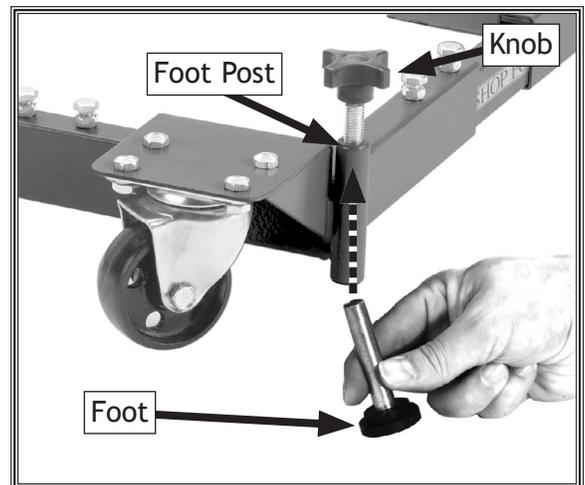

Figure 12. Installing foot pad and knob into a foot post.
9. Thread a knob into the top of a foot post several turns, then insert a foot into the bottom of the foot post, as shown in **Figure 12**. The knob shaft should pick up the foot when it comes in close proximity since the top of the foot is magnetized.
1. Thread each knob several turns into the foot posts, as shown in **Figure 12** in *Assembling Base* on **Page 5**.
2. Insert a foot into the bottom of each foot post (see **Figure 12** on **Page 5**). The knob should pick up the magnetic shaft of the foot when it gets close.